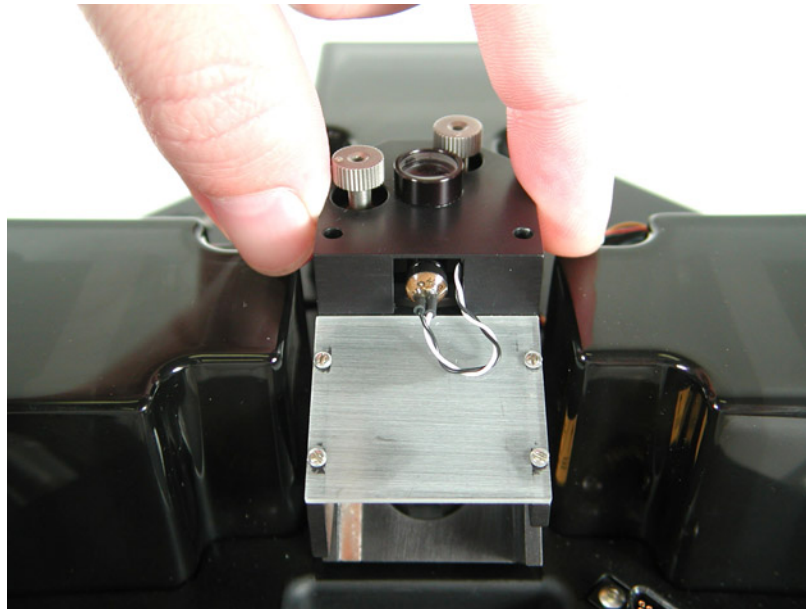

Figure 53 Placing scanner assembly into microscope
- 2 Place the scanner assembly into the scanner socket, with the scanner's frosted screen facing up and forward (Figure 53).